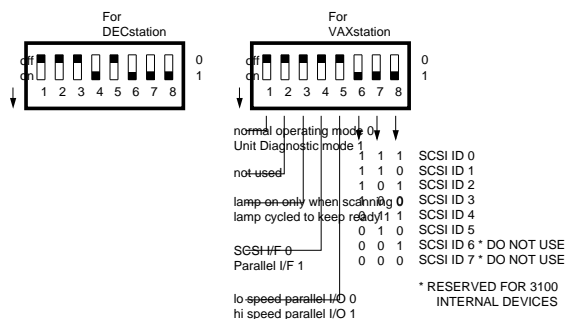

Figure 1 DIP Switch Setting For Normal Operation
- Set the DIP switch on the rear panel as shown in Figure 1.